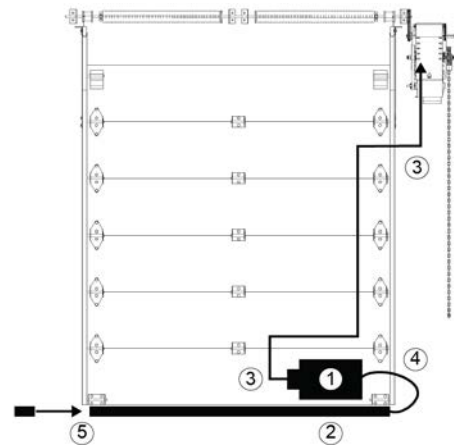

Figure 37 - Reversing Edge
1. Place the air switch in position, refer to Figure 37.
1. Place the junction box in position, refer to Figure 37.